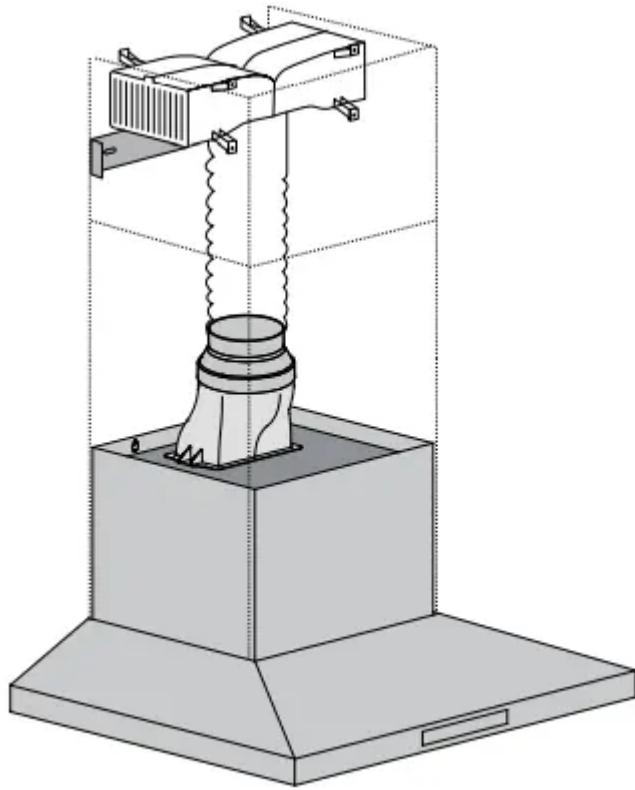

Fig. 10
**Step 6a.** Recirculating mode (Fig. 10). Using the centre line, secure the recirculating T-piece to the wall with suitable screws/fixings (optional kit AR610RK). Install flexible pipe between T-piece and reducer.